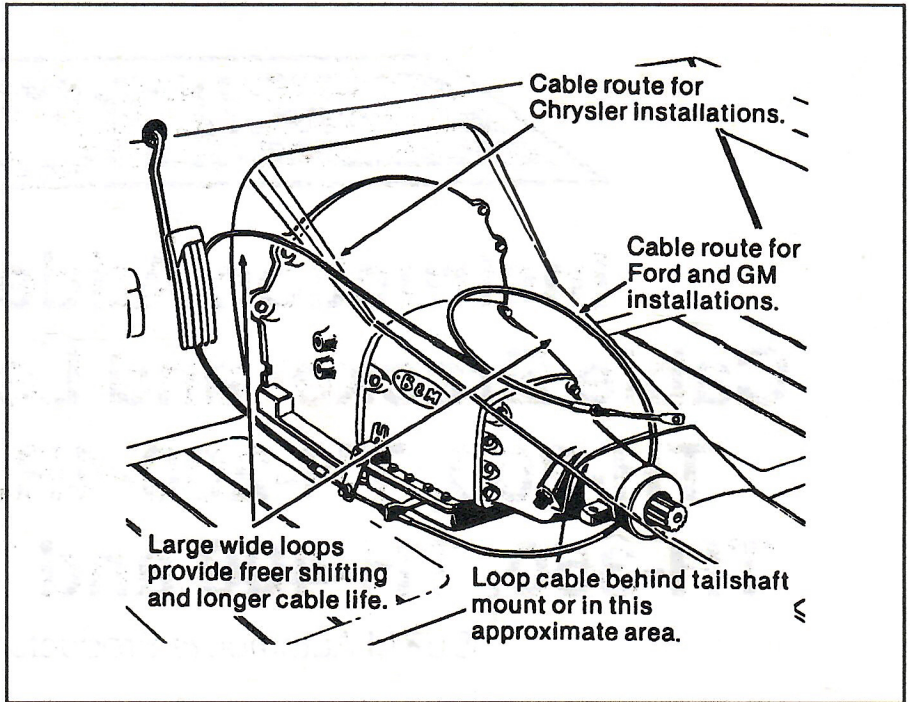

Figure 2
STEP 2. Remove the two rubber boots, one large nut, and a large lockwasher from the threaded end of the shifter cable. Route the shifter cable according to figure 2. Avoid sharp bends and route the cable away from hot engine exhaust parts. Slide the end of the